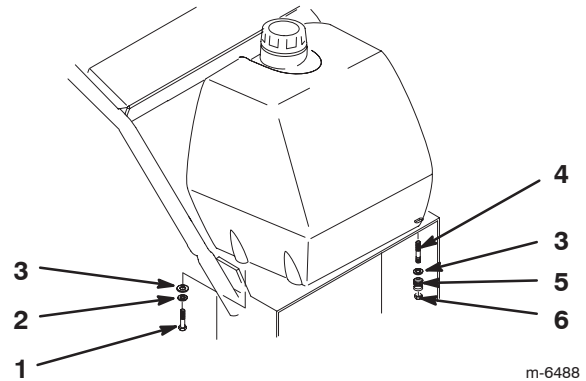

Figure 13
2. Align the fuel tank to the top of the rear frame, and secure the right side of the fuel tank with 2 bolts (5/16 x 3/4 inch), 2 lock washers (5/16 inch), and 2 washers (5/16 inch) (Fig. 13).
3. Secure the fuel tank studs to the frame with 2 washers (5/16 inch), 2 springs, and 2 locknuts (5/16 inch) (Fig. 13).